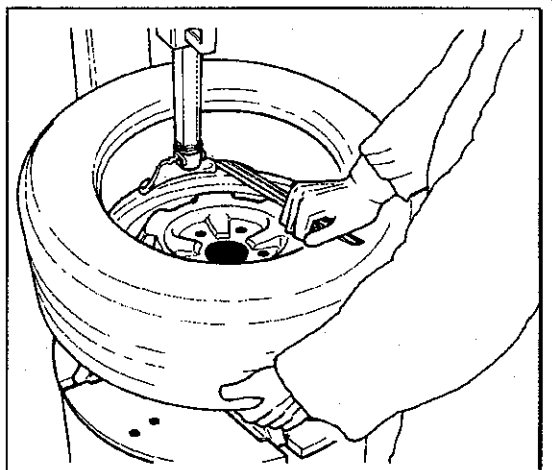

Fig.20
H. Repeat the process for removing the lower bead. This time, lift the bead opposite to the mount/demount head to keep it in the drop center (Fig.20).